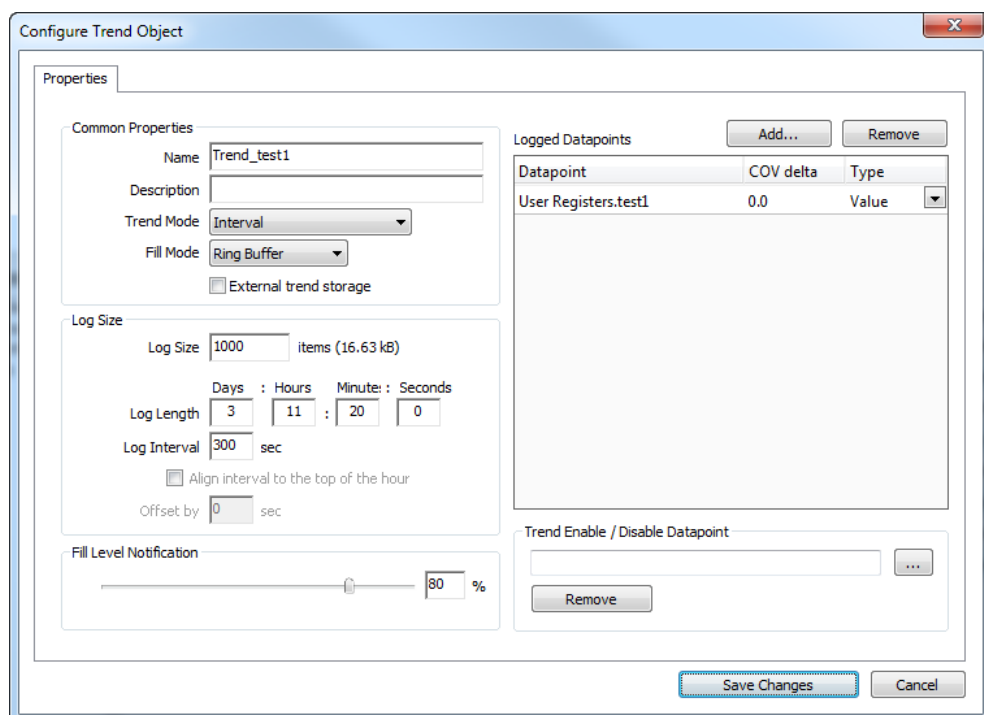

Figure 187: Basic Trend Object Configuration.
3. In the **Create New Trend Object** dialog (shown in Figure 187) enter a name and optionally a description for the trend log object.